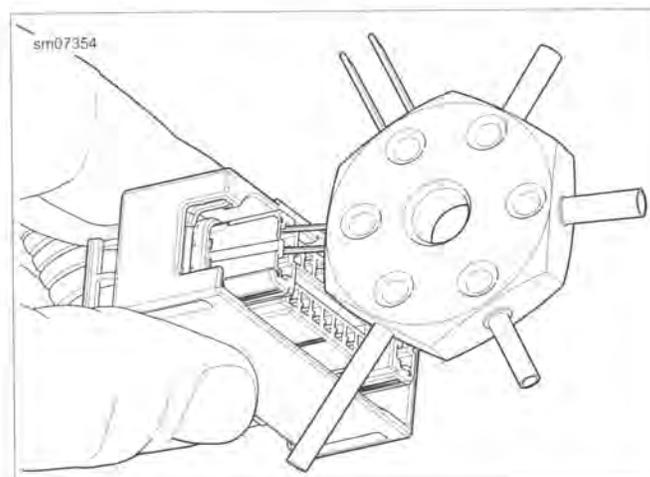

Figure A-75. Removing Large Socket Terminals: Tyco MCP Connector
3. See Figure A-75. Insert the smallest pins of the SNAP-ON TERMINAL PICK (Part No. GA500A) into the gaps on each side of the socket to compress the tangs on each side of the terminal.